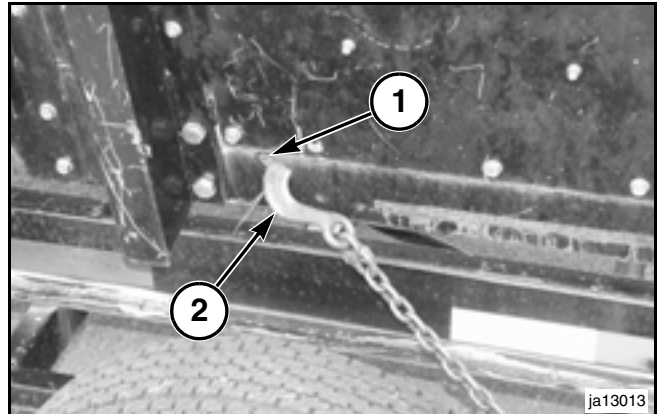

FIG. 8
FIG. 8: One lower center rear tie-down slot (1) is located on either side of center just outside of the feed house opening. Insert a grab hook (2) into the lower frame slot as shown in the figure.